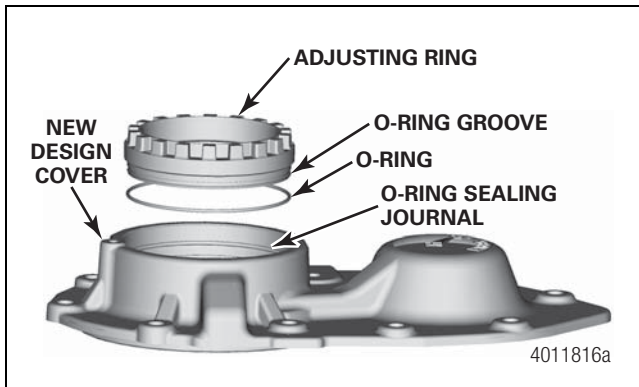

Figure 12
- On new design carriers, apply a small amount of axle oil to the O-ring and to the O-ring sealing journal inside the carrier cover. Use only the amount of oil necessary to lubricate the O-ring and journal to prevent excess oil from spreading to other parts. Install the O-ring on the adjusting ring. Ensure the threads of the adjusting ring and the carrier cover are clean and dry. Apply thread sealant, part number 2297H8406, included in kit 2935 to the outside diameter of the input bearing adjusting ring. Figure 12.